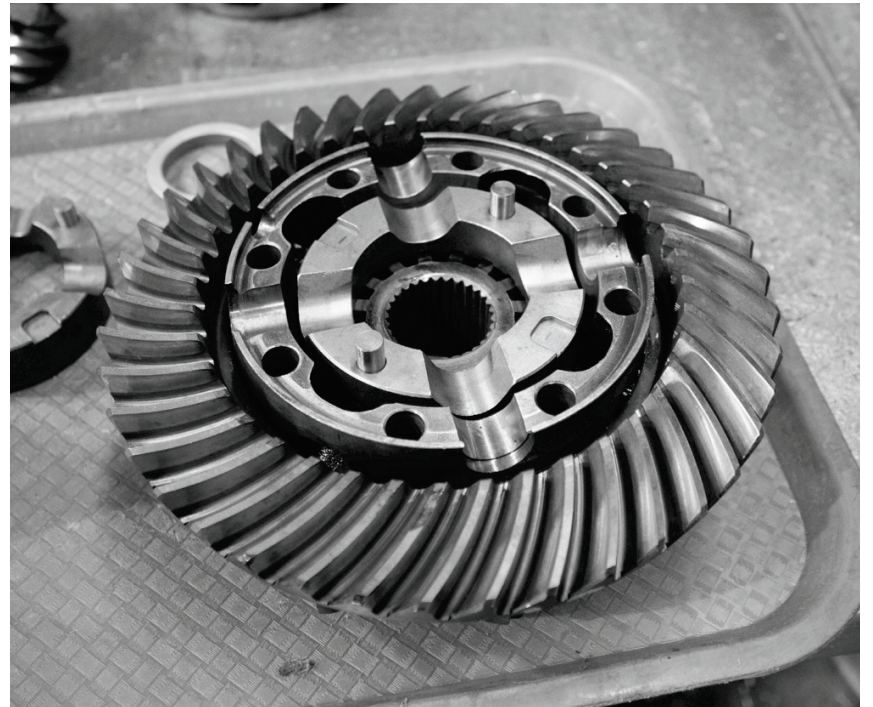

Figure 6
- Place first driver onto side gear. *Figure 6*